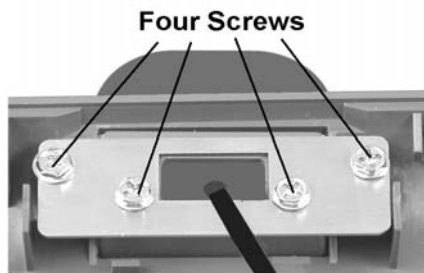

Figure 3: Installing the reader mounting plate
2. Feed the interface cable through the bracket, then attach the bracket to the cover using the outside screw holes. Fasten the reader housing to the bracket using the inside screw holes. Figure 3.